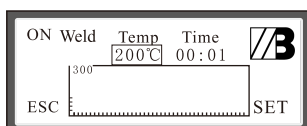
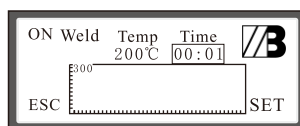

Fig. 9
Fig. 10
③. Press “SET” button to switch “Heating” to highlighted state, and press “PAGE DOWN” button to switch to “SOLDERING”. Press “SET” Button again to switch “TEMPERATURE” to highlighted state. Press “PAGE UP” button and “PAGE DOWN” button to conduct the setting of “TEMPERATURE” as shown in Fig.9. Press “SET” Button again to switch to “TIME” setting to highlighted state as shown in Fig.10, and then conduct time setting.